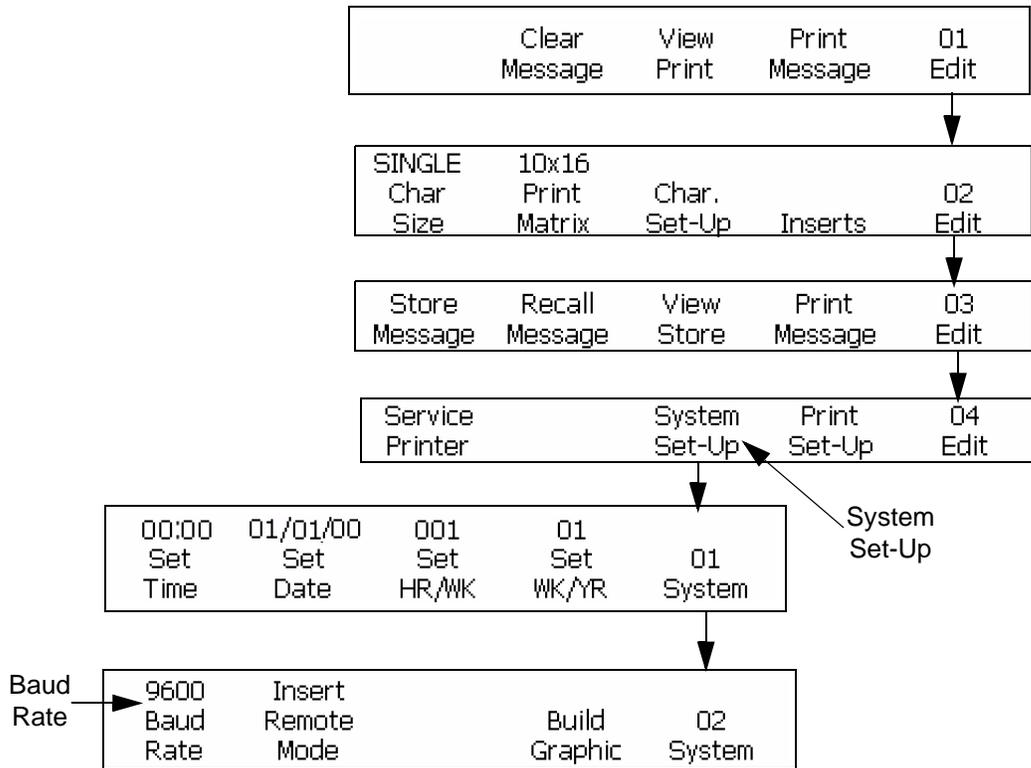

Figure 7-9: Accessing Frame <02 System>
- 1 Begin with the Frame <02 System>. Refer to Figure 7-9.